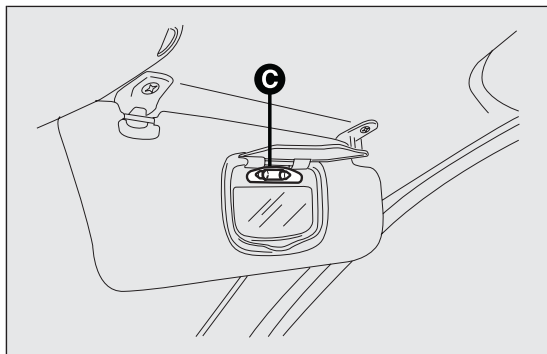

fig. 184
- replace bulb C fig. 184 releasing the side contacts, insert the new bulb and make sure that it is correctly locked between the contacts.